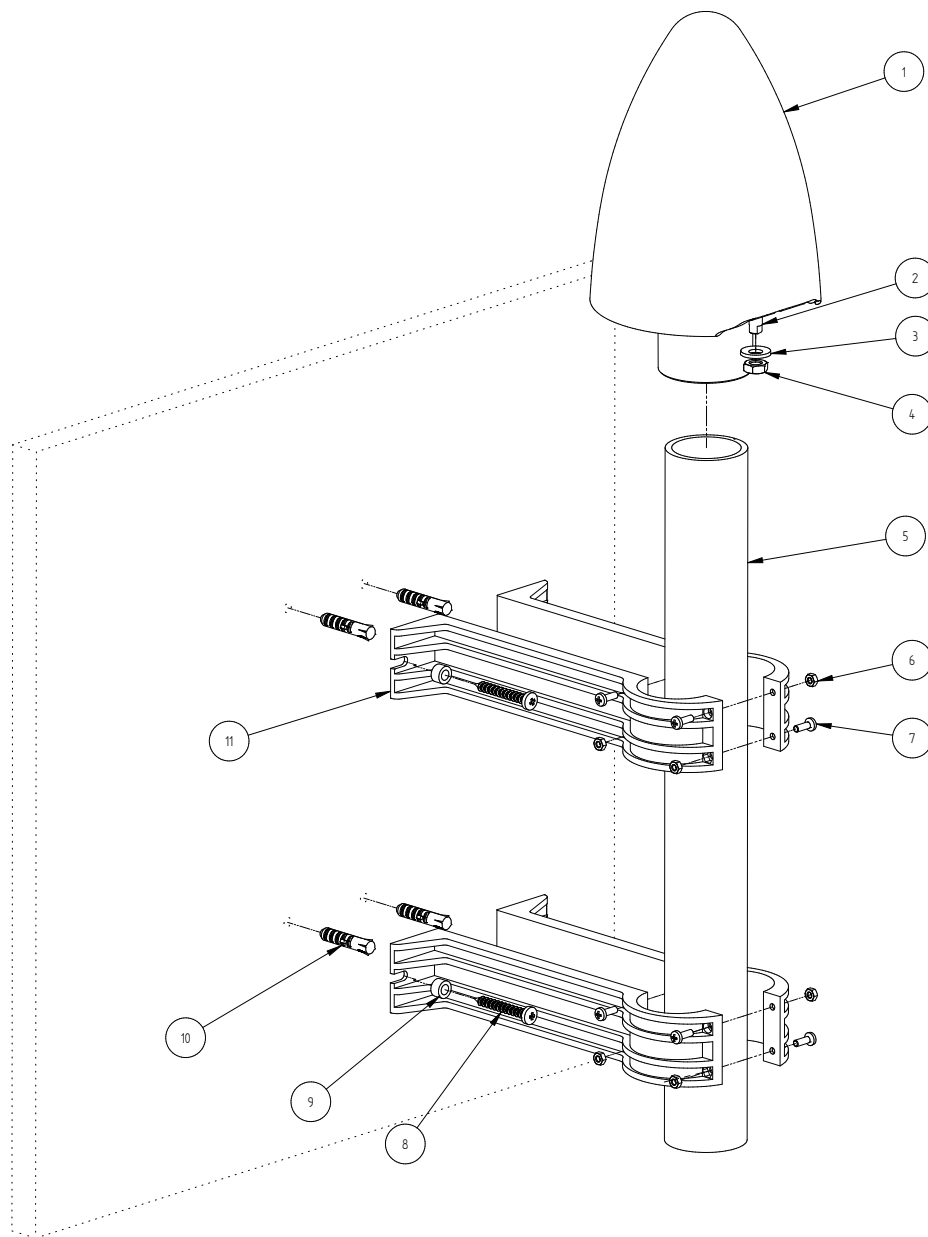

Figure 8.4: Mounting a GPSANTv2 Antenna onto a Mast
**Fig. 8.4** illustrates how to assemble and mount a Meinberg GPSANTv2 Antenna on a mast by way of example.
1. Assemble the two pairs of pole clamp halves (Item 8 in Fig. 8.4) with the mounting tube (Item 2 in Fig. 8.4) in the clamps. Secure the tube inside each of the two clamps using four M4x12 Phillips screws and corresponding M4 hex nuts (Items 3 and 4 in Fig. 8.4). To ensure that the clamp is secure as possible, the top and bottom screws of each clamp should be inserted from opposing directions as shown in Fig. 8.4.
2. Place the threaded bolts (Item 5 in Fig. 8.4) around the designated mast pole and feed the two prongs into the holes of the pole bracket (Item 9 in Fig. 8.4). Secure each of the clamps to each of the pole brackets using two spacers and two M6 hex nuts (Item 7 in Fig. 8.4) and tighten until the pole bracket and U-bolt are secure.